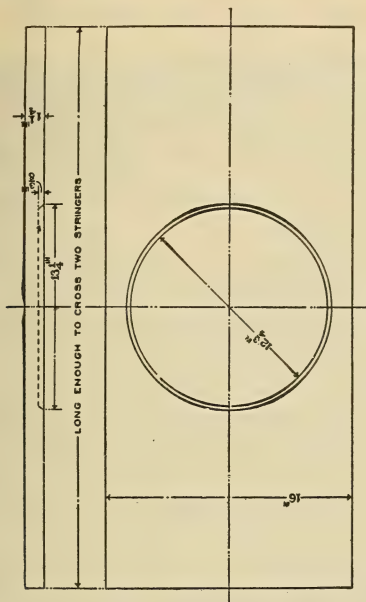

FIG. 52.
detail in Figure 52. The recess, in one face of this board, receives the upper part of the regulator cover. This board with the regulator attached is secured to the car body (see Figures 46, 48 and 49) by means of straps (243) and lags (180) passing through both the board and the straps and lags (179) passing through the straps only. Filling valve brackets (118a) are located